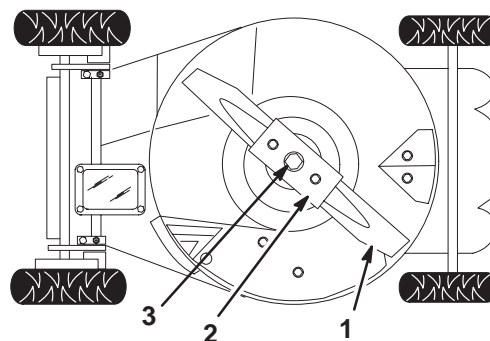

Figure 25
3. Tip the lawn mower onto its **left** side (Fig. 25).
2. Remove the blade bolt, the lock washer, the blade, and the blade stiffener (Fig. 25).